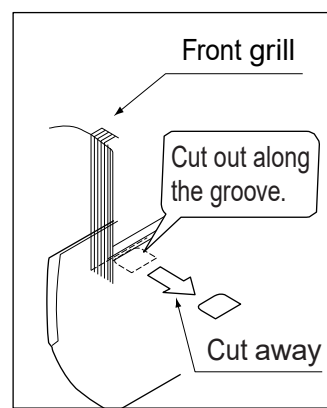

Fig. 4
- (a) Check the location for the hole using the included paper pattern for installation (3).
- (b) Temporarily attach the installation panel (1) at the temporary-securing position on the paper pattern for installation (3) and use a level to make sure the drain hose is either level or tilted slightly downward.
- (c) Secure the installation panel (1) to the wall using either screws or bolts.
- If using the attachment screws for the installation panel (2), attach using at least 4 screws on either side (for a total of 9 screws) of the recommended installation cleat position on the included paper pattern for installation (3).
(3) If using the left, bottom-left, or bottom-right positions for the piping, cut out the through-hole for the piping in the front grill. (Refer to Fig. 4)